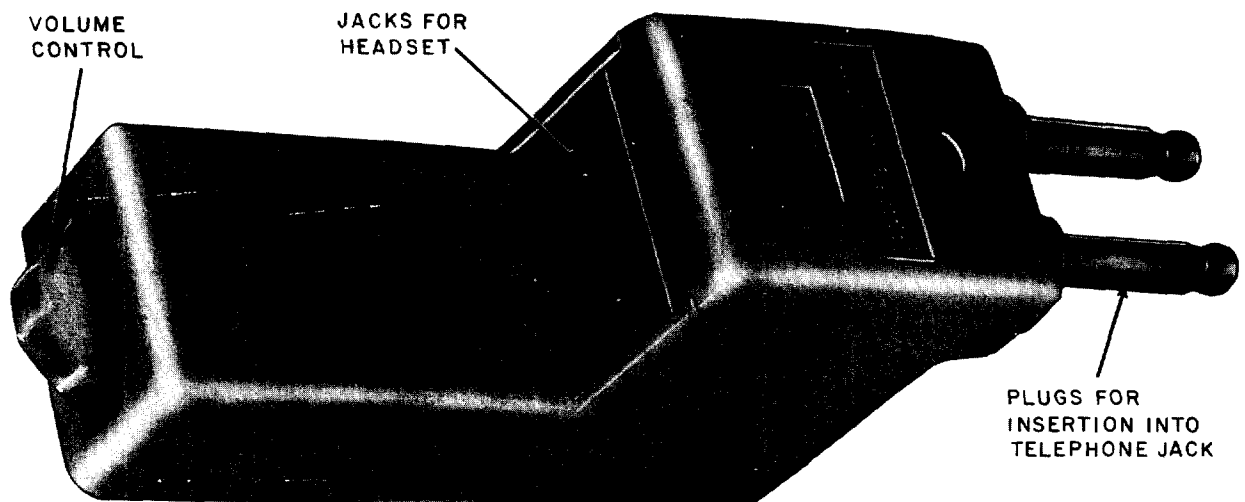

Fig. 1—292-Type Amplifier
**1.01** The 292A (Manufacture Discontinued) and 292B amplifiers (Fig. 1) are intended for use in conjunction with a head telephone set for operators with impaired hearing. The amplifiers are to be used only where a real need exists, such as in cases where their use would permit the continued effective employment of operators whose hearing losses interfere with their job performances.
- (d) to revise Figs. 1 and 3
**1.10** When in use, the plugs of the amplifier are inserted into the jacks of the telephone circuit and the head telephone set is plugged into the jacks of the amplifier (Fig. 1).